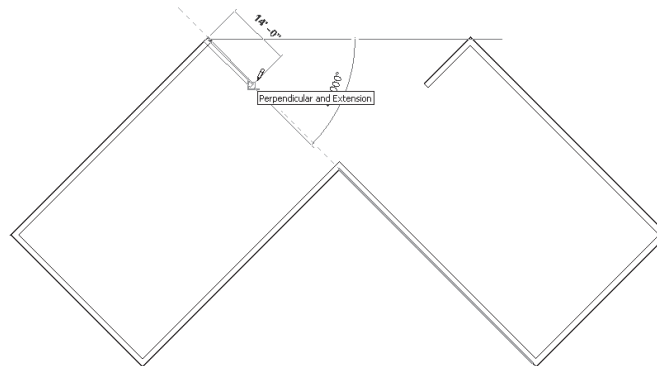

Figure 3-45 Sketching the inclined exterior walls using the **Chain** option
11. Similarly, create the next two wall segments of 60'-0" and 14'-0" length to complete the inclined wall exterior profile, as given in the sketch plan and shown in Figure 3-45.